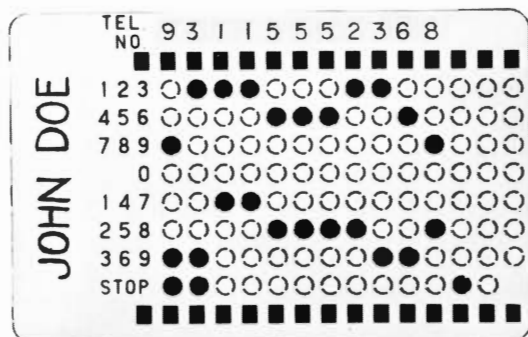

Fig. 4 — P-13E353 Card Coded for Access Code (9), Area Code (311), and 7-Digit Telephone Number (555-2368)
3.03 In certain PBX systems it is necessary to dial an access code to obtain central office dial tone. To prepare a card for dialing an access code (Fig. 4 and 6):